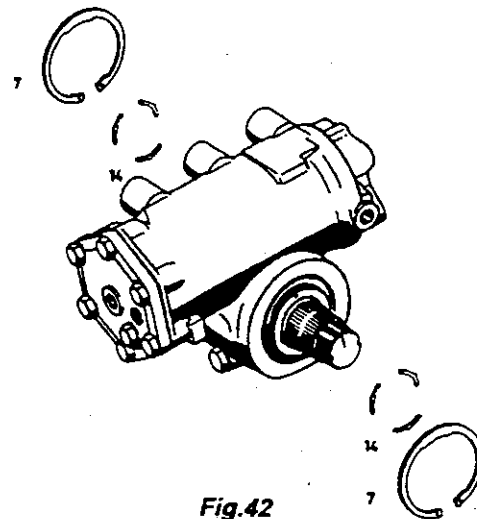

Fig.42
Press holding segments (14) in until flush (**Fig.42**).